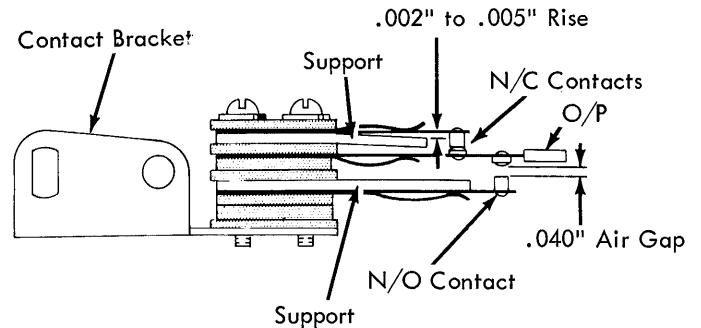

FIGURE 63. Mode Contact
10. **Keyboard Mode Contacts** - Form the N/C support so that the O/P lifts the N/C contact by .002" to .005" (Fig. 63).
11. Form the N/O support so that the N/O contact clears the O/P by .040" (Fig. 63).